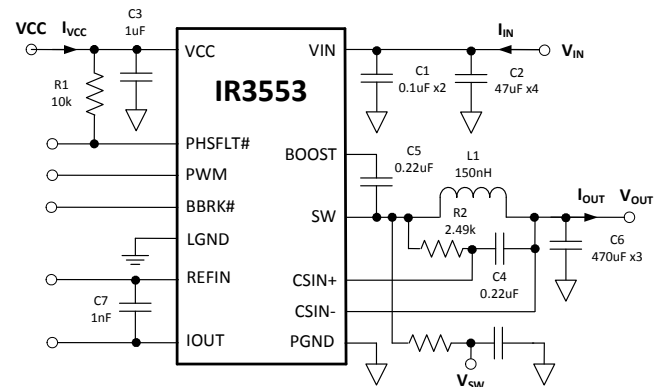

Figure 32: IR3553 Power Loss Measurement
Circuit of Figure 32, $V_{IN}=12V$, $V_{OUT}=1.2V$, $f_{SW} = 400kHz$, $L=150nH$ ($0.29m\Omega$), $V_{CC}=7V$, $T_{AMBIENT} = 25^{\circ}C$, no heat sink, no air flow, 8-layer PCB board of 3.7" (L) x 2.6" (W), no PWM controller loss, no inductor loss, unless specified otherwise.
Circuit of Figure 32, $V_{IN}=12V$, $V_{OUT}=1.2V$, $f_{SW} = 400kHz$, $L=150nH$ ($0.29m\Omega$), $VCC=7V$, $T_{AMBIENT} = 25^{\circ}C$, no heat sink, no air flow, 8-layer PCB board of 3.7" (L) x 2.6" (W), no PWM controller loss, no inductor loss, unless specified otherwise.
The single-phase IR3553 efficiency and power loss measurement circuit is shown in Figure 32.